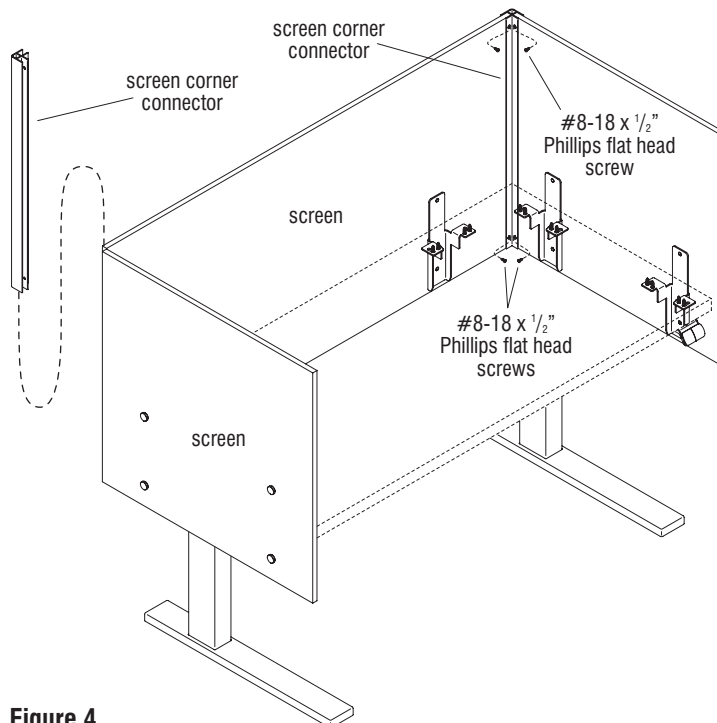

Figure 4
6. Place the screen corner connector above two screens at the corner location. Align the two openings on the connector with both screen ends, then slide the connector down until the connector reaches the bottom of the screens (Figure 4 & Detail E).
7. Secure the screen corner connector to the screens using four #8-18 x 1/2 inch Phillips flat head screws (Figure 4 & Detail F).